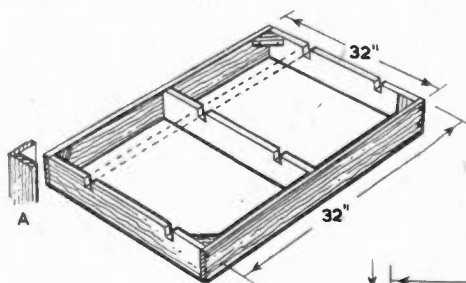

FIG 1
At this stage the legs can be made. For each one two pieces of wood are required, and shaped up as in Fig. 3, a pair at a time, or cut separately if waste is to be reduced to a minimum. Each half leg is tapered from 6 ins. down from the top, as shown. Both are then glued and nailed together to make an L-shaped complete leg, measuring 4 ins. each side. Punch the nails well down (oval nails are best) and stop the holes level. Fix the legs to each corner, as at (A) in Fig. 1, screwing from the outside with round-headed brass screws or flat head screws if from the inside.